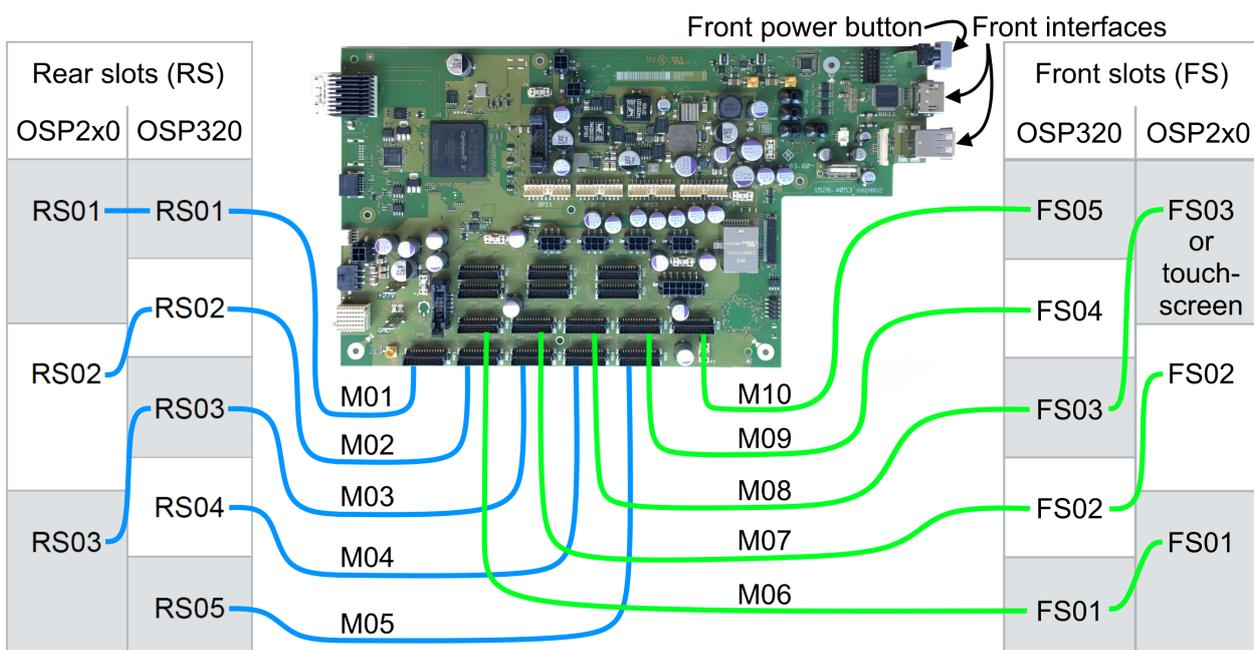

Figure 2-25: Top view of the motherboard with its connectors for module bus cables
- If you must connect 2 module bus cables (flat-ribbon cables) to a module, connect the cable with the lowest name value (e.g., [M01], see Figure 2-25) to the module's bus connector with the lowest number (e.g., [X100]). Then connect the second cable [M02] to [X101].
- If you mount the one-slot module R&S OSP-B200R, which requires connecting 2 flat-ribbon module bus cables, we recommend mounting this module in the slot associated to the cable with the highest name value. For example, in an R&S OSP220, mount it in slot [FS03], which has a module bus cable connected to module bus connector [M08] on the motherboard (see Figure 2-25). If your application requires connecting 2 module bus cables, use the cable of a neighboring slot (for example [M07] in slot [FS02]) as the additional cable. Connect this cable to connector [X100] on the module, and connect [M08] to
In a factory configuration, the correlation of slot positions and module bus connectors follows the scheme in Figure 2-25. If you mount modules yourself, we recommend that you adhere to the same correlation.